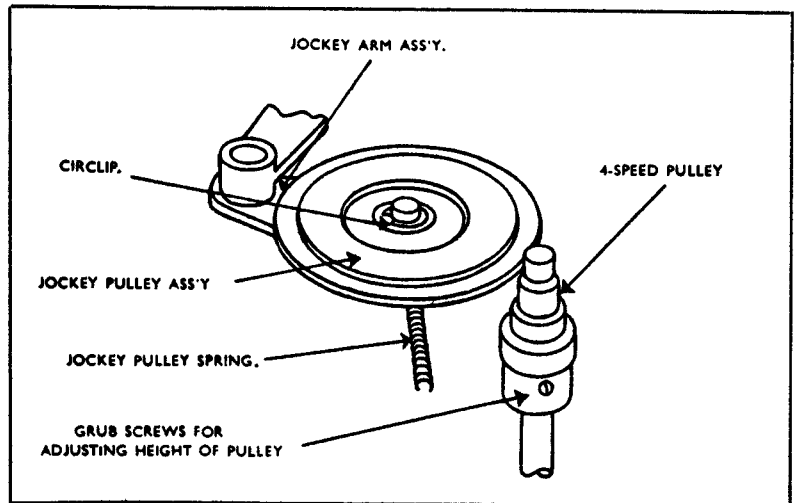
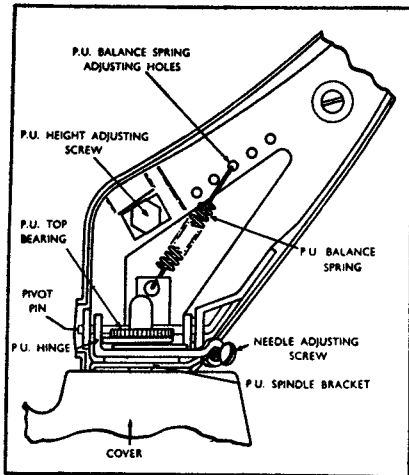

FIGURE 2.
FIGURE 4.
**Needle Set-Down.** --The set-down position of the needle on the record is adjusted by manipulation of the needle adjusting screw (Item 8M261). (See Figure 4.) Adjust this screw until the correct set-down of the needle on a 10" record is obtained. The correct position is 1/8" from the edge of the record. It is advisable to make this adjustment with a stack of 10" records on the turntable. When correctly positioned for a 10" record, the 12" and 7" needle set-down will also be correct.
**Pickup Arm Height.** --The pickup arm height is adjusted by the pickup height adjusting screw (Item 8M257). (See Figure 4.) To raise the height of the pickup arm, turn this screw counterclockwise. To lower the pickup arm turn clockwise. The pickup height should be adjusted so that with a stack of ten average thickness records on the turntable, the point of the needle clears the top record by 1/16 inch. A check should then be made to insure that the pickup
**Needle Pressure.** --Adjustments may be made by re-positioning the pickup balance spring (Item 8M263) in the various adjusting holes provided (see Figure 4) until the correct pressure is obtained.
- (1) Set the four speed knob at the 16-2/3 RPM position.
- (2) Slacken setscrews on the 4-speed pulley (Item 8M94) and adjust until the jockey pulley (Item 8M32) is engaged on the smallest pulley diameter just clear of the top step (see Figure 2).
- (3) Tighten setscrews.
This must be done after the changer has switched itself off. Unsolder the pickup leads from the connecting tagstrip. Un screw the pickup top bearing (see Figure 4) and then lift the pickup arm clear. Replace the pickup top bearing to avoid losing the spacer washer.
(3) Jockey pulley not engaging turntable rim.	(b) Check that the 4-speed pulley (Figure 2) is not loose on motor spindle. If loose adjust as under "Adjustments of Speed Change". (a) Check that the jockey pulley is free to pivot. (b) Check that the jockey pulley spring is correctly positioned (see Figure 2).